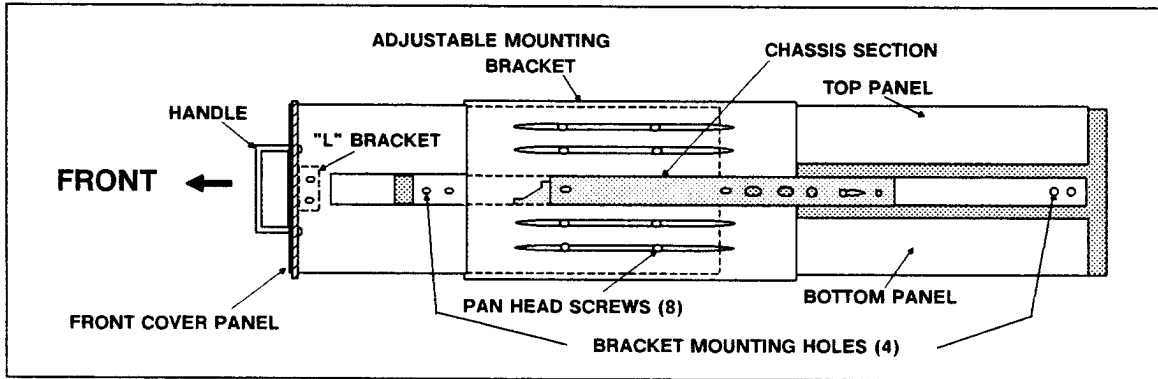

Figure B-2. Adjustable Bracket and Chassis Section
Carefully position the Adjustable Mounting Bracket assembly for alignment to the instrument right side. Align the assembly to the existing threaded holes as shown in Figure B-2. Use the furnished 8-32 pan head screws (4) to secure bracket. Repeat this procedure for mounting the other Adjustable Mounting Bracket to the left side.
Properly orient and mount the Right Chassis Section to the Adjustable Mounting Bracket (see Figure B-2) using the threaded holes and hardware provided.
The Adjustable Mounting Bracket is shipped from the factory in the closed position. If recess mounting is desired, loosen the pan head screws (8, each side, refer to Figure B-2), extend the bracket as required, and tighten the screws.
The cover panel can be installed to provide a finished appearance and protect instrument modules and cabling. To install the cover panel, the mainframe must be recessed back from the front mounting cover, allowing adequate space to clear all cables and front panel connectors. The front cover is fastened with 1/4 turn fasteners to "L" Brackets (furnished). Since the "L" Brackets are not used in the flushmount applications, the user must install the "L" Brackets, with hardware provided, to the Adjustable Mounting Brackets (refer to Figures B-2 and B-3).